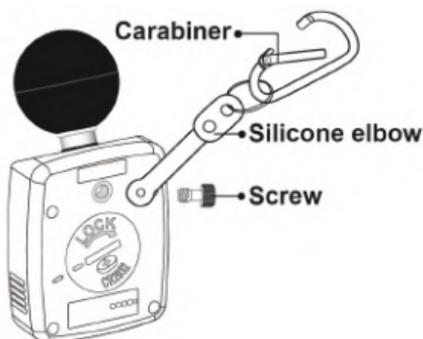

Fig. 3 Hanging kit
- Attach a silicone elbow on the meter with fastening a screw into the nut on the back, as shown in (Fig. 3).